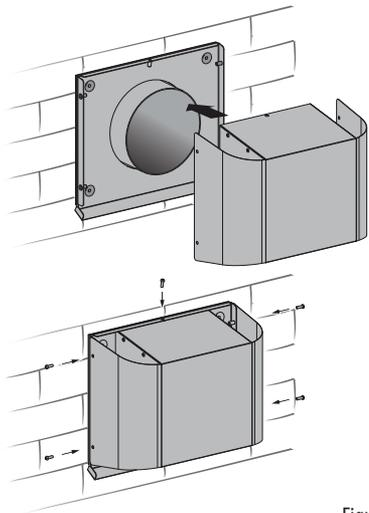

Figure 12
12. Install the front part of the exterior-mounted hood (Figure 12).